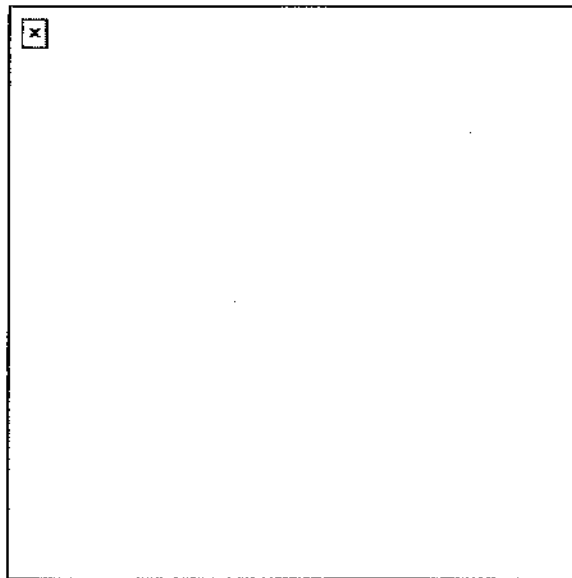

Figure 6. Reinforced loopholes.
- (3) Use sandbags or other material to reinforce the walls around loop holes (Figure 6).